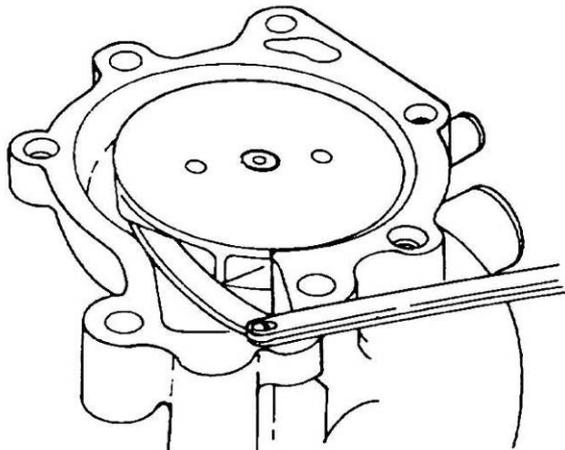

Figure 65 Checking the Impeller Clearance
- g. Turn the water pump over and position the impeller on the shaft. Press the impeller onto the shaft until the clearance between the impeller and the pump housing (Figure 65) is 0.3 to 0.8 mm (0.012 to 0.031 in).